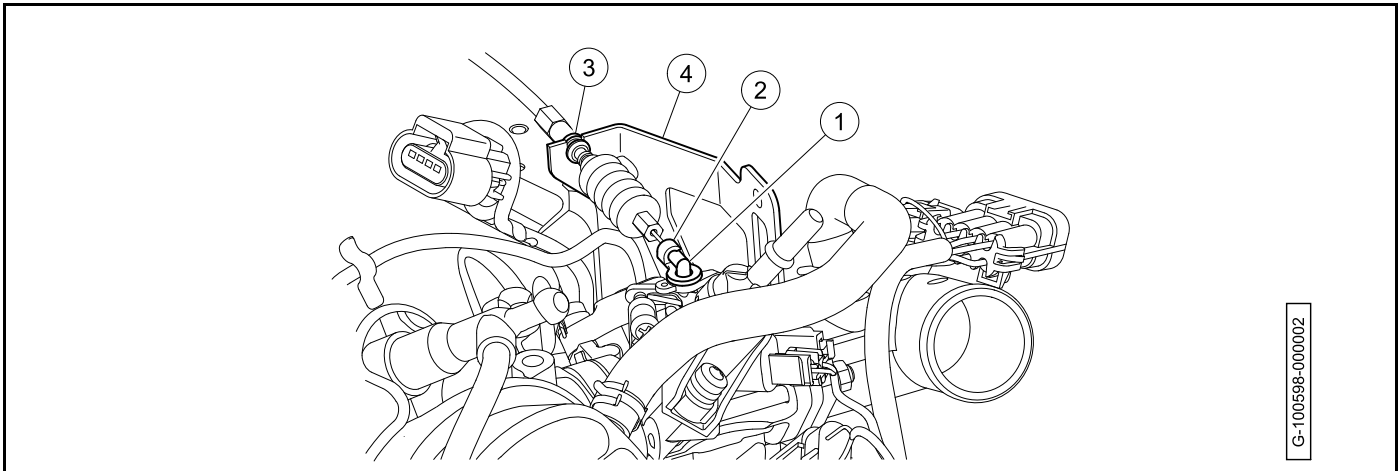

Figure 22-3 Governor Cable Installation - Throttle Body
- 1.1. Snap governor cable into throttle body bracket (4) (**Figure 22-3, Page 22-4**).